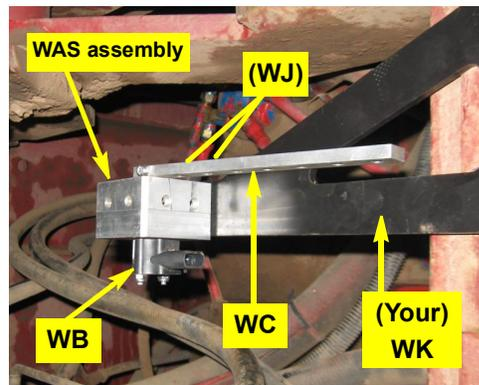

Figure 2c: Installed WAS assembly
- c. Using hardware WJ (not visible), mount the WAS assembly from step 1 on the rear face of bracket WK. Mount the WAS assembly with its arm WC on top and, like wire connector WB, pointing outward (Figure 2c).